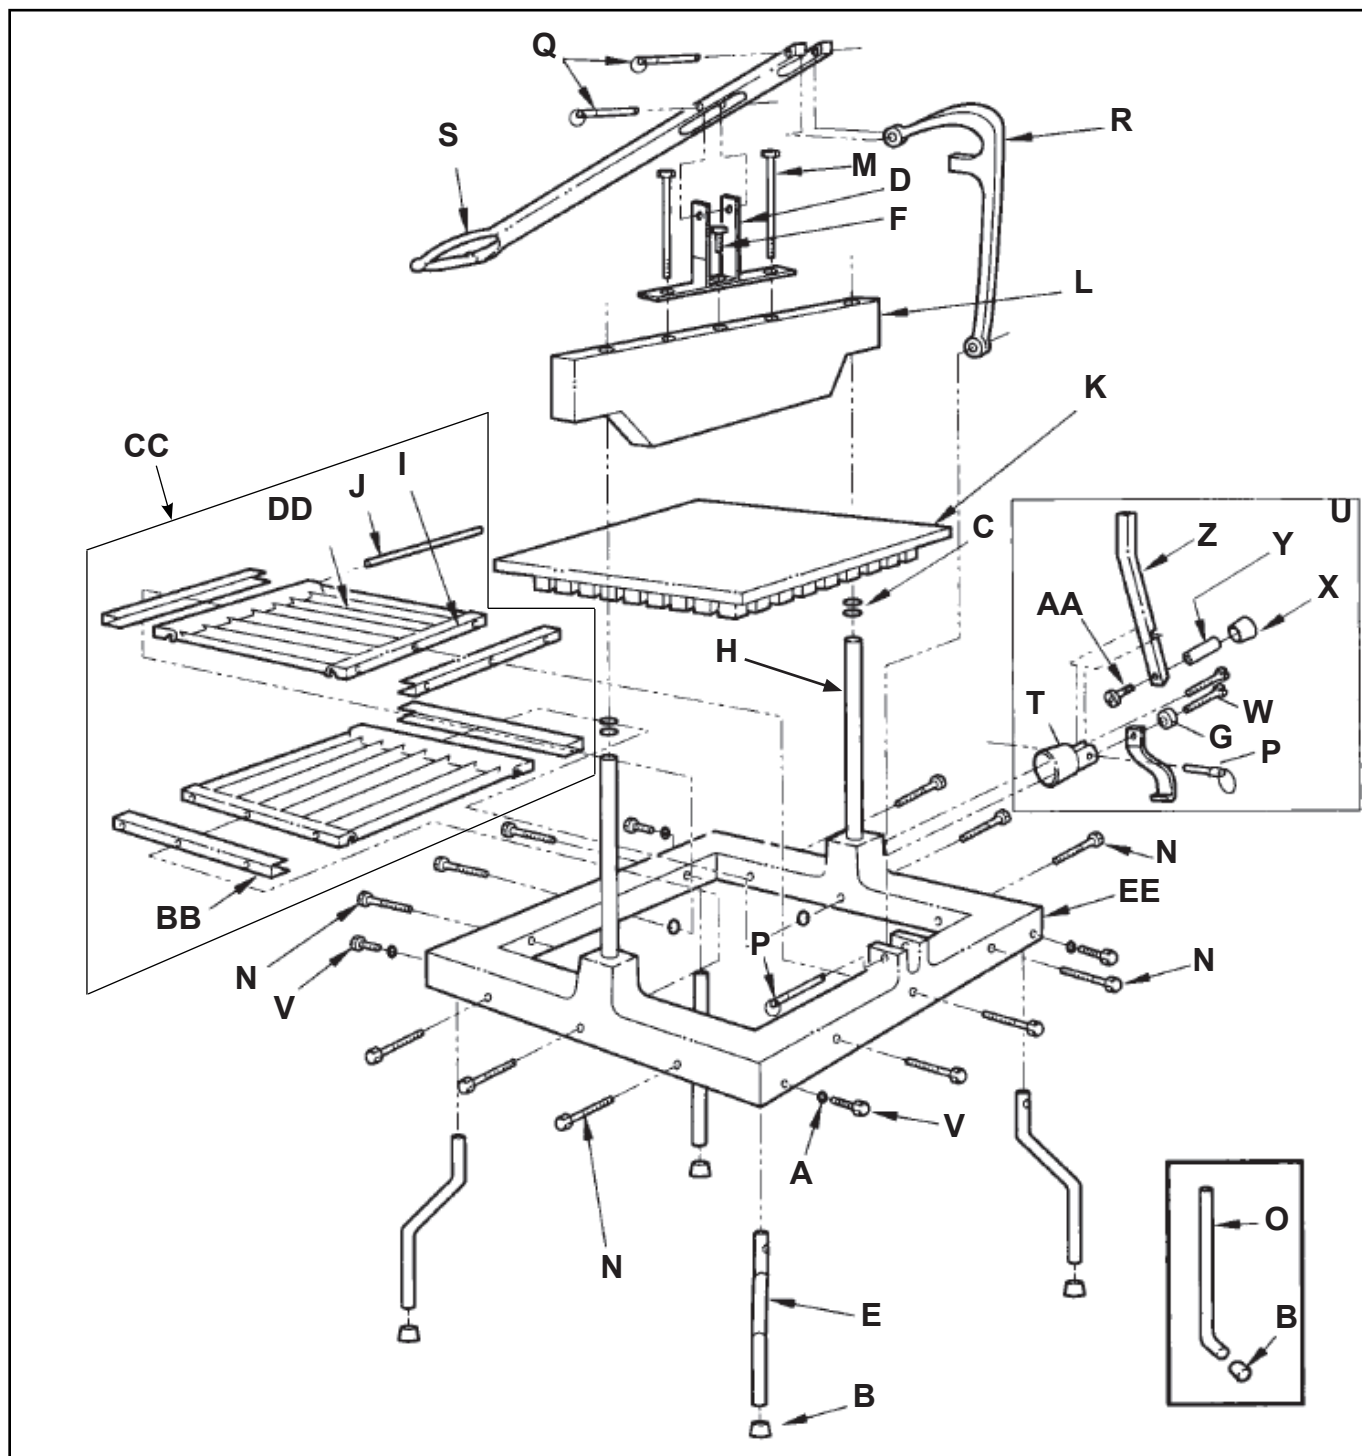

Figure 7. Spare Parts for Lettuce King IV.
1. Familiarize yourself with the parts diagram for your equipment. See Figure 7 (Spare Parts for Lettuce King IV) for parts to reference for this procedure.
4. Remove the screws retaining the blade assemblies (CC) and (DD). Carefully remove and dispose the blade assemblies.
5. Examine the pusher head (K). If they are nicked or burred, smooth the rough edges with a small flat file.
6. Verify that blade shields (BB) are installed on the blade assembly (CC) and (DD).
7. Place the lower blade assembly (CC) into the frame (H) so the it is positioned correctly and the sharp side up.
8. Install the screws into the left side of the blade assembly (CC). Tighten until contact is made with the frame (H). Turn the screw until tight, do not exceed 1/2 turn or 40 in. lbs.
9. Place rubber washer between the right side frame (H) and the blade assembly (CC). Insert the screws through the frame, and rubber washer into the blade assembly. Turn the screw until tight, do not exceed 1/2 turn or 40 in. lbs.
10. Place the upper blade assembly (DD) into the frame (H) so the it is positioned correctly and the sharp side up.
11. Install the screws into the front side of the blade assembly (DD). Tighten until contact is made with the frame (H). Turn the screw until tight, do not exceed 1/2 turn or 40 in. lbs.